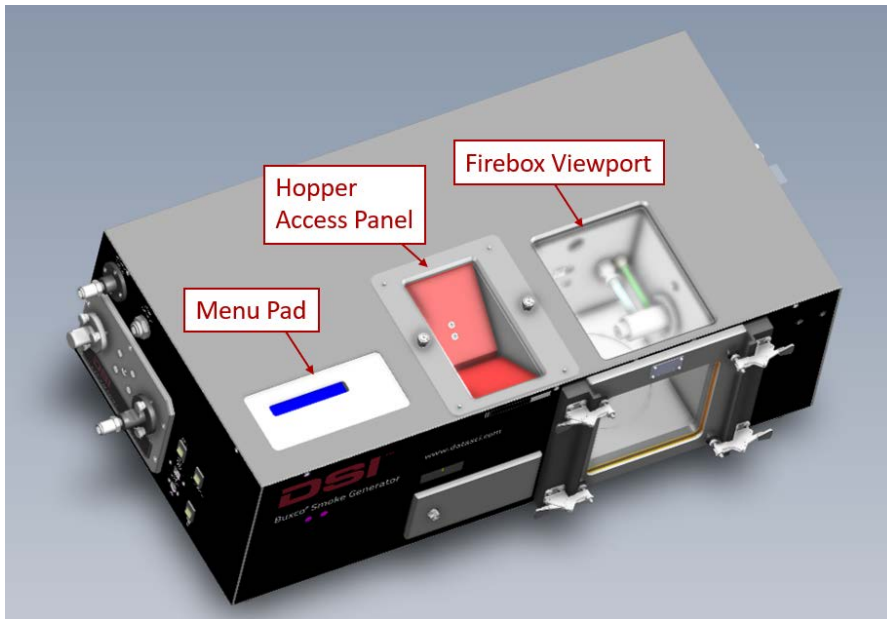

Figure 1 Top View
- The sealed firebox containing (Figure 1)
- A display for viewing settings and messages during operation (Figure 1)
- Menu pad for adjusting operational settings (Figure 1)
The top view of the unit can be seen in Figure 1. The top of the unit includes the following components: